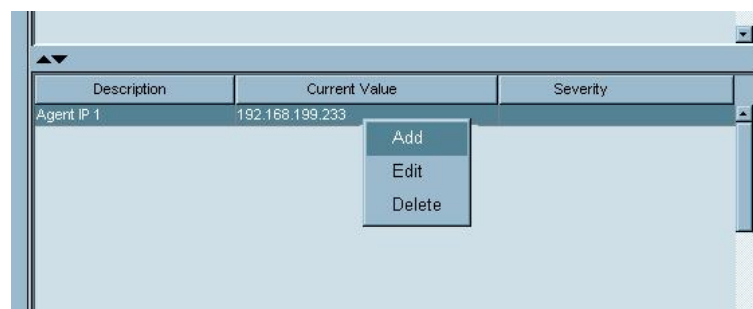

Figure 3-17: Agent List Right-click Menu
Step 2. To add or delete RAID Agents, click the *Create* button next to the **Root Agent** pull-down list to open an *Add Monitor Controller* window. The same command can also be activated by right-clicking on the agent list. (See *Figure 3-17*)